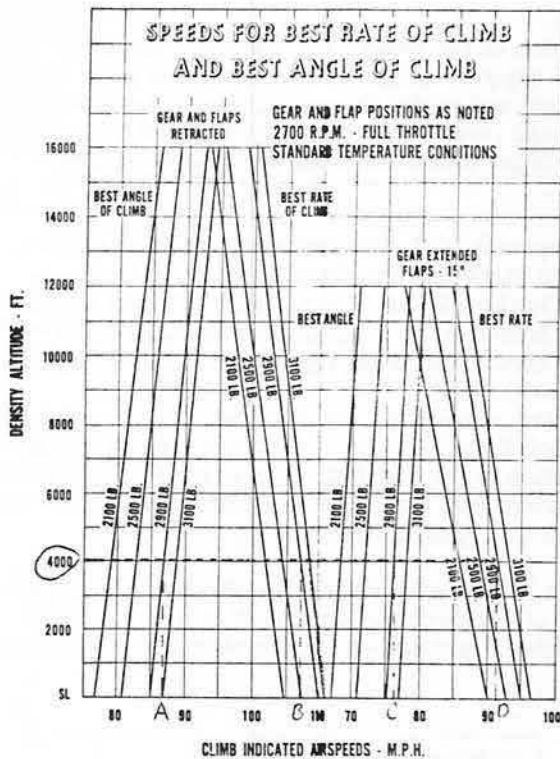

FIGURE 3
- Step 1. Draw a line parallel to the vertical lines from the 70° on the Fahrenheit Scale (A) to about the diagonal 3,000 feet Pressure Altitude line.
- Step 3. The intersection of these two lines (C) lies on the 4,000 foot value of the Density Altitude scale (D). THE DENSITY ALTITUDE IS 4,000 FEET.
**COMBINED GRAPHS.** Some Aircraft Performance Charts incorporate two or more graphs into one when an aircraft flight performance involves several conditions. A simple combination of graphs is illustrated in Figure 3. Choose the conditions that are appropriate and solve on that portion of the graph. Sample problems for several conditions are solved under the graph.
- 1- In Figure 2, taxiing only is permitted; in Figure 3, all operations are prohibited.